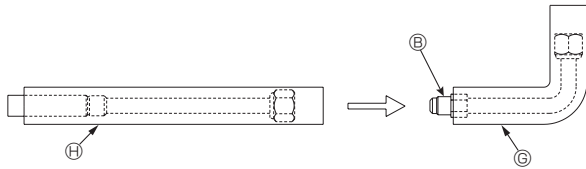
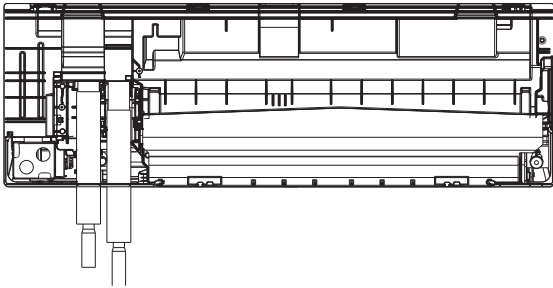

Fig. 3-14
Fig. 3-22
3.3.4. How to install connecting pipes (C) and (H) (For WL12/15 model) (from Fig. 3-14 to Fig. 3-22)
- (1) Connect two sets of L-shape connection pipes (C) and I-shape connection pipes (H). (Fig. 3-14)